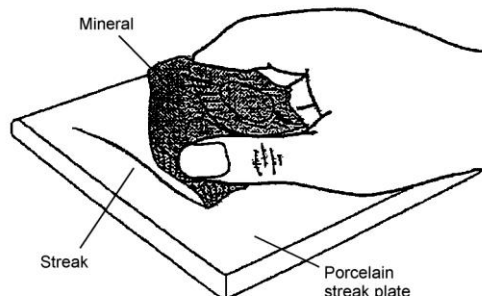

FIGURE 20. Testing for streak
1. Streak is the color of the powdered mineral that is left when the mineral is drawn across a nonglazed porcelain plate called a streak plate. FIGURE 20.